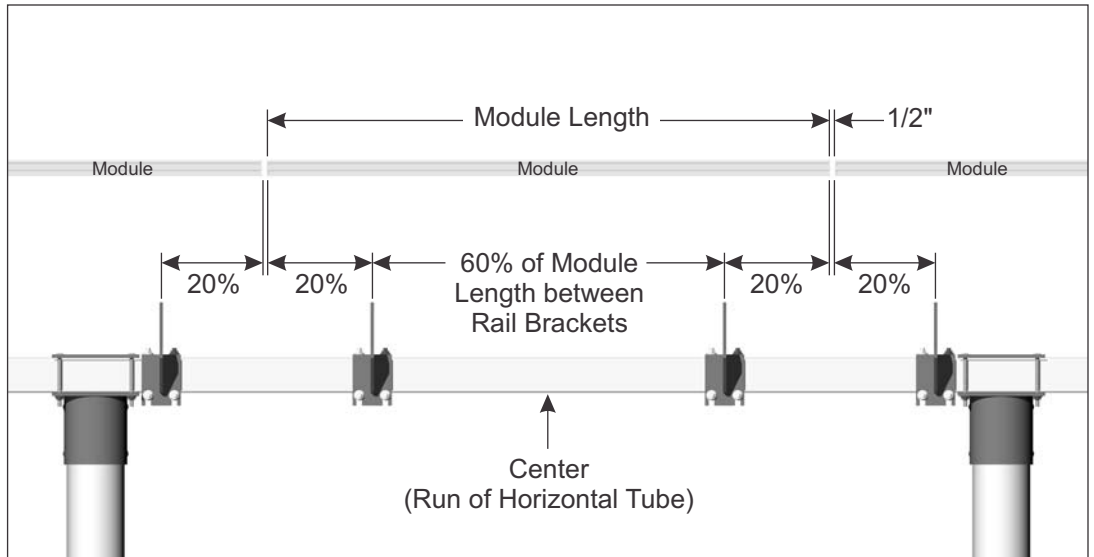
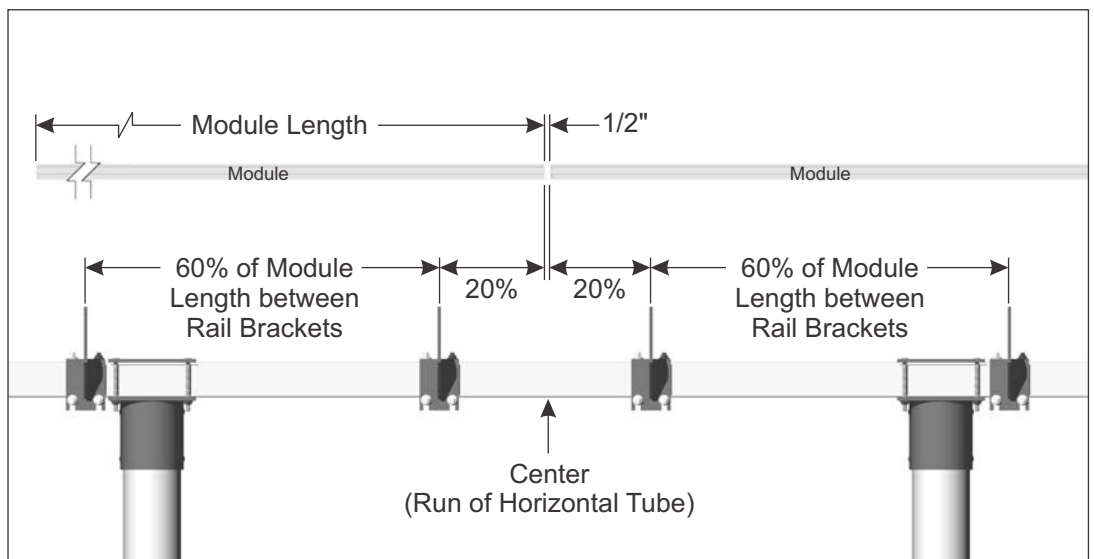

Figure 4-2: Establishing Position and Spacing of Rail Set Assemblies - for an install with an **Odd number of Rail Sets**
Figure 4-3: Establishing Position and Spacing of Rail Set Assemblies - for an install with an **Even number of Rail Sets**
- C. Measure and mark the locations of the Rail Sets along the Horizontal Tube as shown in the either Figure 4-2 for odd numbers or Figure 4-3 for even numbers of modules.